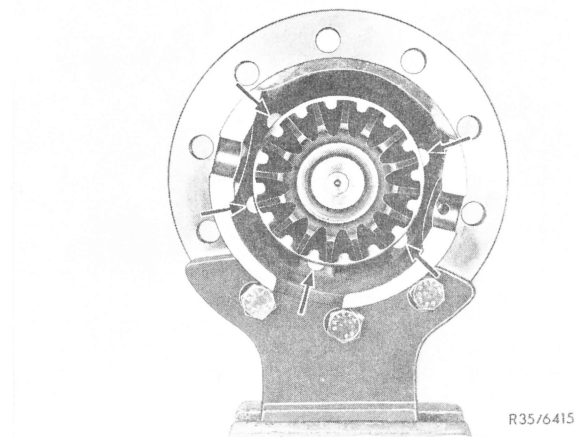

Fig. 9
- 12** Install lefthand side gear (ring gear end) with friction plate and insert assembly mandrel, while watching lugs of friction plates without lining (Fig. 9).